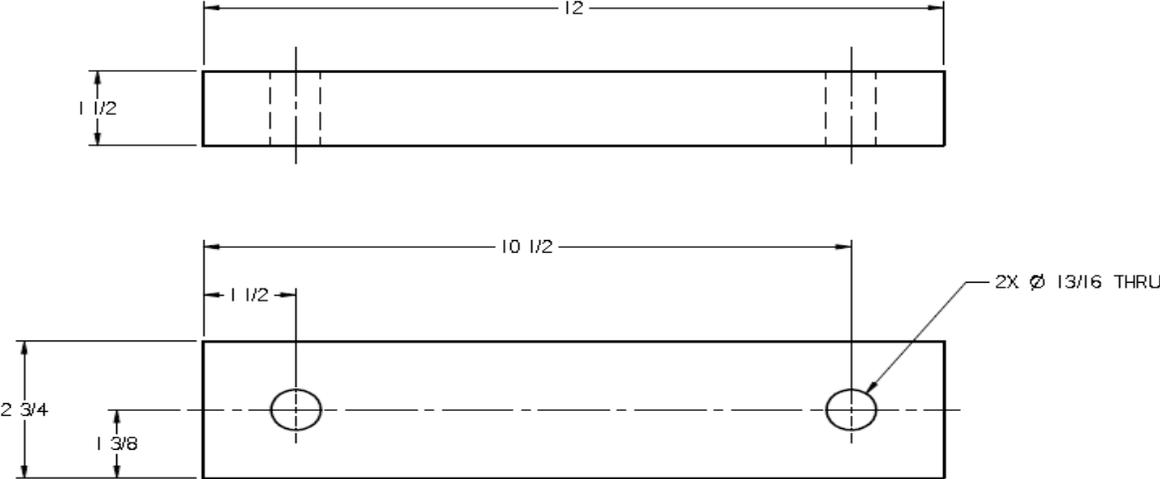

Figure 1. Bearing Removal Tool
- Bearing Removal Tool (Figure 1) or Bearing Puller (2-jaw)